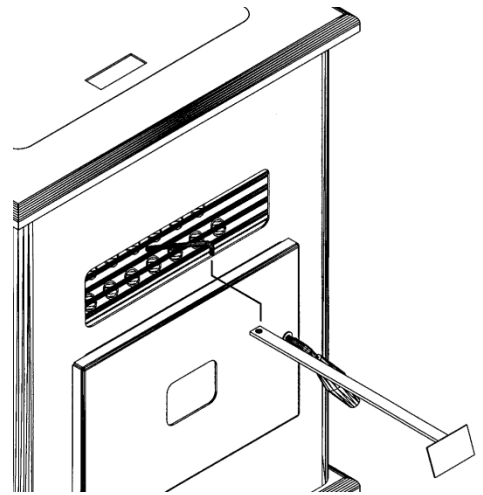

FIGURE 15
- Clean heat exchanger tubes (see "CLEANING" and Figure 15).
- a. Heat Exchange Tubes - Your stove is designed with a built-in heat exchange tube cleaner. This should be used every two or three days to remove accumulated ash on the tubes, which reduces the efficiency of your unit. Insert the handle end (with hole) of the cleaning tool onto the cleaning rod (refer to Figure 15). The cleaner rod is located in the grill above the stove door. Move the cleaner rod back and forth several times to clean the heat exchanger tubes. When finished, be sure to leave tube cleaner at the rear of the stove.